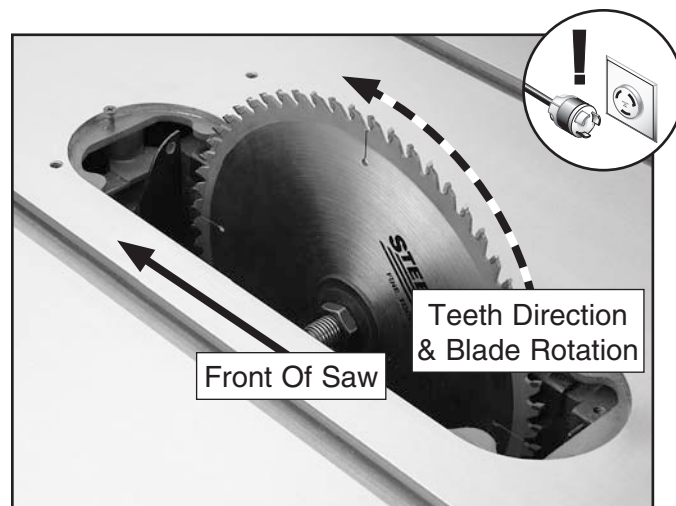

Figure 22. Correct blade direction.
- Slide the blade over the arbor with the teeth facing the front of the saw, as shown in **Figure 22**.